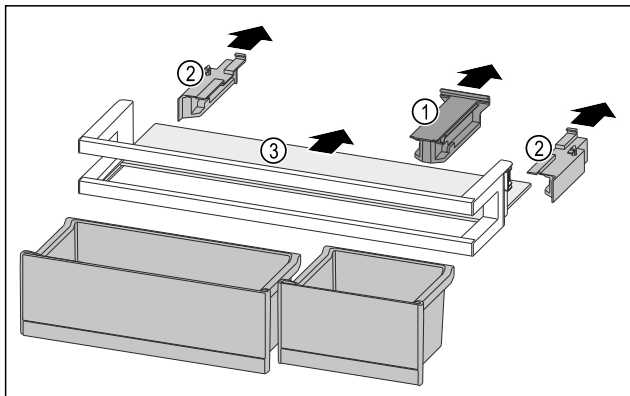

Fig. 141
- ▶ Pull off the holding part Fig. 141 (1).
- ▶ Pull off the side parts Fig. 141 (2).
- ▶ Remove the shelf Fig. 141 (3).